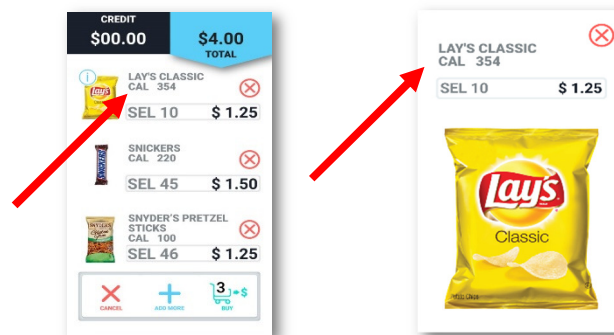

Figure 29
- **Calories:** If you choose to show the calorie count for a product enter the calorie count for the entire package here. The calorie count for the product will be displayed on the screen after the product name when the product is selected (*figure 29*).